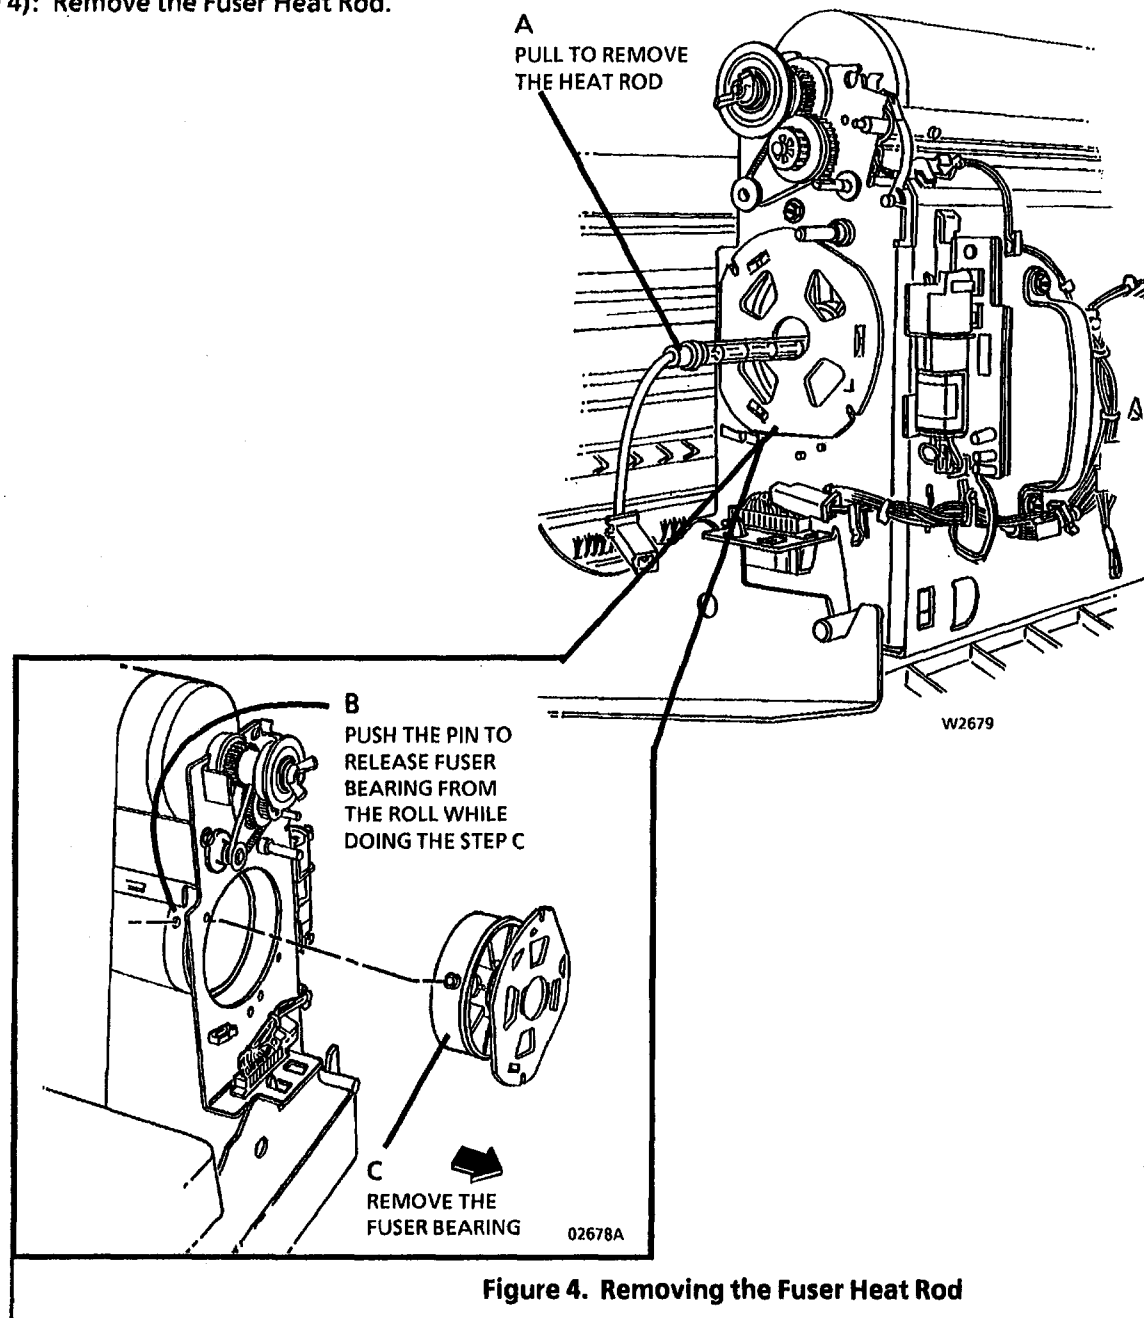

Figure 4. Removing the Fuser Heat Rod
5. (Figure 4): Remove the Fuser Heat Rod.